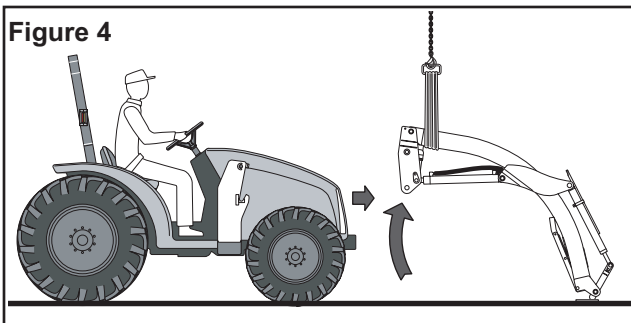

Figure 4
6. Secure a hoist strap around loader upper boom arms similar to Figure 4. Slowly raise loader with overhead hoist until loader upright will clear tires (see Figure 4).